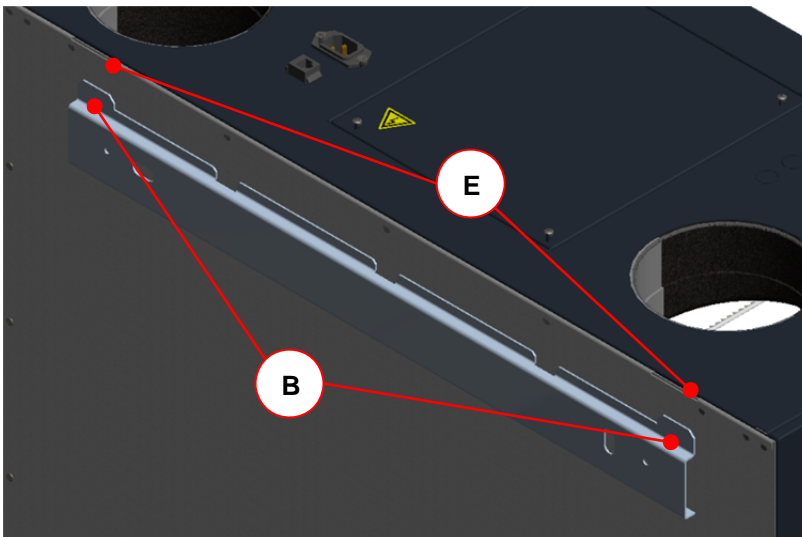

Fig 19: Hanging into the mounting sheet
6. Put the FOCUS on the mounting frame by hooking the tongues in the bottom slot openings of the rear panel. See Fig 19